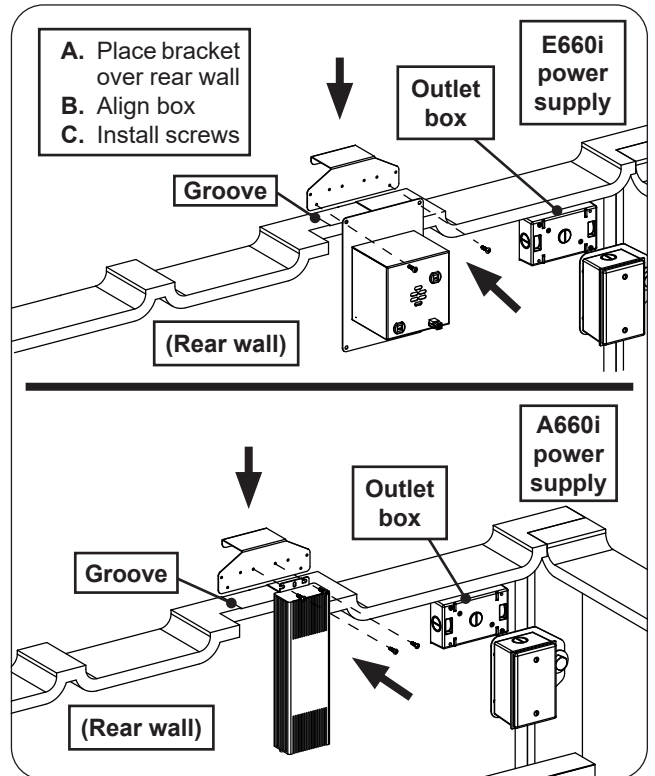

Fig. 12-2 Install power supply box
1. **First** place the power supply box bracket over the rear wall, in the groove just to the left of the outlet box (see Fig. 12-2).
2. Disconnect the power supply harness extension from the grill/griddle, then align the pilot holes on the power supply box with the holes on the bracket. Insert the two Phillips screws and tighten with the power drill and #2 Phillips driver (see Fig. 12-2). **DO NOT OVERTIGHTEN.**